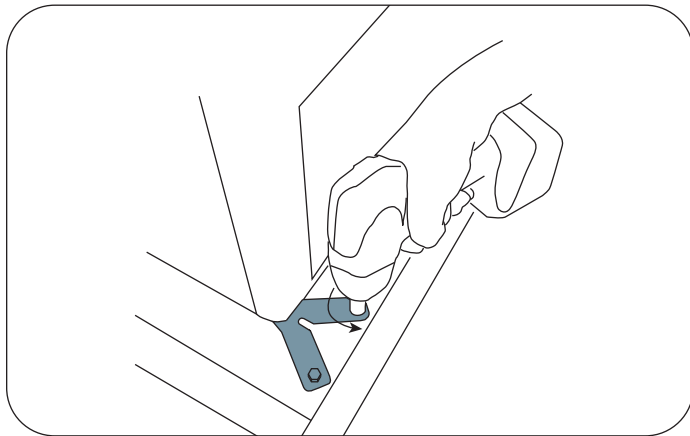

Figure 4. Remove Shipping Brackets
4. Remove the 4-6 steel shipping brackets securing the table to the pallet (Figure 4). The brackets hook onto the table levelers to hold the table securely to the pallet. Remove the 2 bolts from each bracket using a 7/16" socket or wrench. Take care not to scratch the unit when using the driver or turning the wrench. Remove brackets from levelers once bolts are removed.